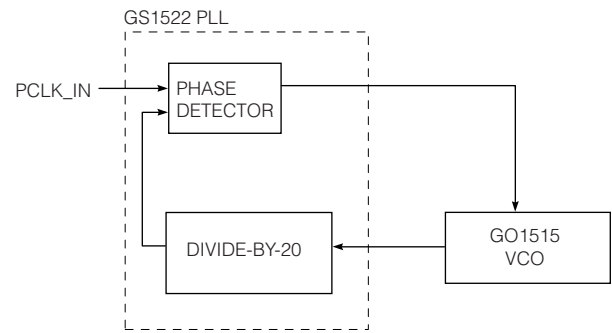

Fig. 15 Phase Lock Loop Frequency Synthesis
The GS1522 requires the HDTV parallel clock (74.25 or 74.25/1.001 MHz) to synthesize a serial clock which is 20 times the parallel clock frequency (1.485MHz) using a phase locked loop (PLL). This serial clock is then used to strobe the output serial data. Figure 15 illustrates this operation. The VCO is normally free-running at a frequency close to the serial data rate. A divide-by-20 circuit converts the free running serial clock frequency to approximately that of the parallel clock. Within the phase detector, the divided-by-20 serial clock is then compared to the reference parallel clock from the PCLK_IN pin (2). Based on the leading or lagging alignment of the divided clock to the input reference clock, the serial data output is synchronized to the incoming parallel clock. The following sections describe the functional blocks in greater detail.